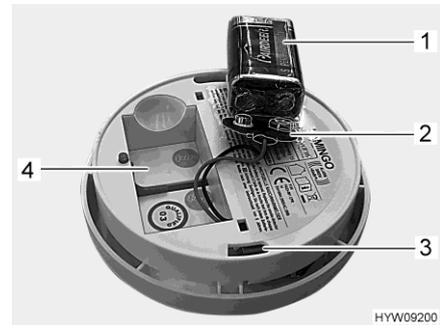

Fig. 147 Smoke alarm (rear side)
- Remove the battery and disconnect it from the battery clip (Fig. 147,2).
- Connect the new battery (Fig. 147,1) at the battery clip (Fig. 147,2). When doing so, make sure that the battery poles engage on the battery clip.
- Place the battery into the battery compartment (Fig. 147,4).
- Place the smoke alarm (Fig. 148,1) onto the holder (Fig. 148,3). The holding lugs (Fig. 148,2) must engage in the openings (Fig. 147,3) in the smoke alarm.